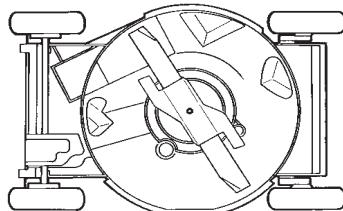

Figure 16
4. Tip the lawn mower on its **left** side (air filter up) (Fig. 16).